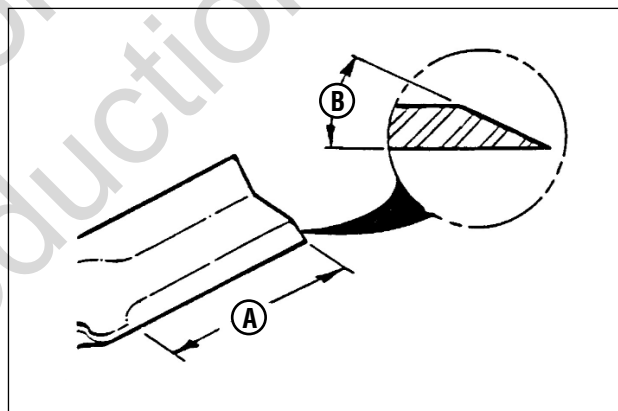

Figure 43: Sharpening the mower blade
5. If the blade is in good condition, sharpen at 22 to 28 degrees (**B**, **Figure 43**). DO NOT sharpen beyond existing cutting edge (**A**).